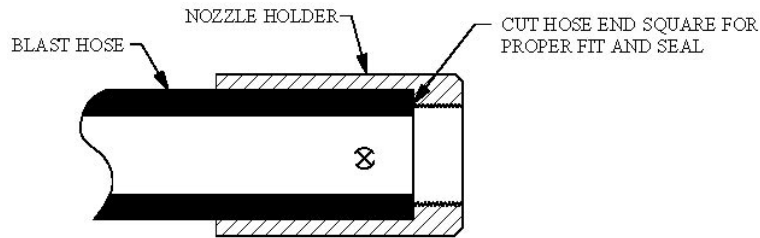

Figure 8.3 – Hose End Fit up
- 8.8. **Blast/Air Hose Coupling Gaskets:** All air hose, blast hose, and threaded couplings have gaskets that seal the connection. To prevent loss of air pressure and/or premature abrasive wear replace these gaskets when leaks are found. Inspect the couplings daily for leaks and wear. Replace gaskets when visible wear or leaks are found. When installing or replacing hose couplings cut the hose end square for secure fit (see Figure 8.3). To insure proper coupling connection always use fittings that are the same brand. See the drawings and part lists in Section 9.1 and 9.2.